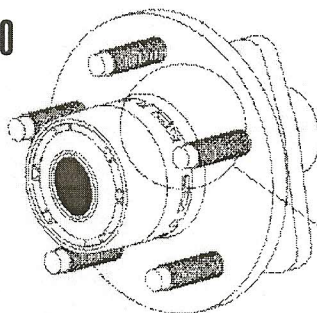

FIGURE 1
- 2-) Remove the existing free wheel hub (Fig. 1) using a screw-driver of suitable size to loosen claws from the hub groove. Introduce a screw-driver in each claw, as shown, and pull out till all of them are free.